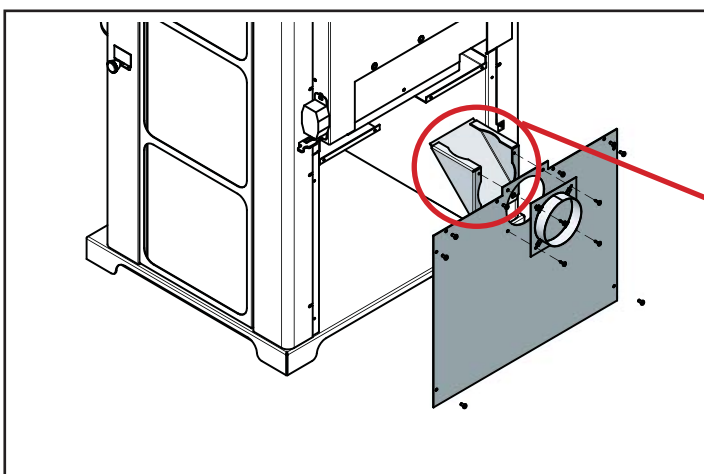

Figure 15.1
2. Remove six screws holding back plate on back of unit. Fig. 15.1
3. Remove 4 inch circular "knock-out" by twisting loose using 4 screws supplied. Fig. 15.1